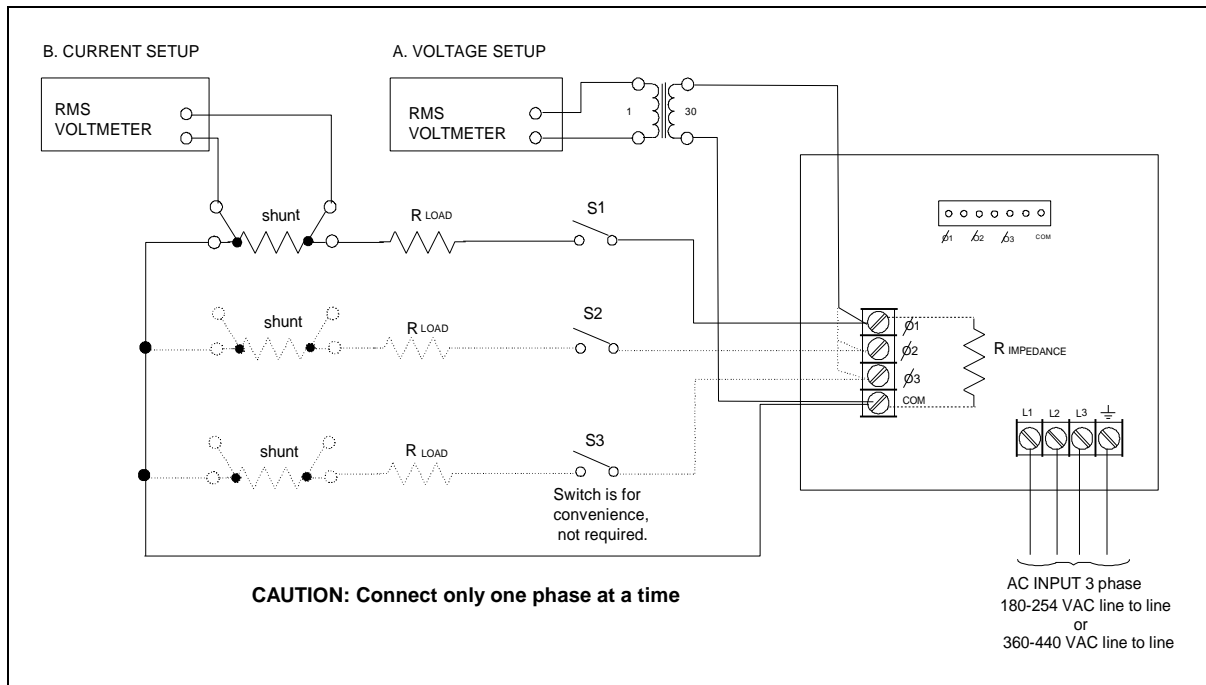

Figure B-1. Verification & Calibration Test Setup
Figure B-1 shows the setup for the tests. Be certain to use load leads of sufficient wire gauge to carry the **full** output current (see chapter 2).
Figure B-1 shows the setup. Measure the ac output voltage directly at the output terminals. **If you are verifying a three-phase source**, start by verifying output phase 1.
1. Make sure the ac source is turned off. Connect the DVM and ratio transformer as shown in the test setup in Figure B-1.
1. Turn off the ac source. Connect the load resistor, current shunt, and the DVM across the current shunt as shown in Figure B-1. Use the following load resistor values: HP 6814B = 7.5Ω; HP 6834B = 15Ω; HP 6843A = 5Ω
Table B-1 lists the equipment required for calibration. Figure B-1 shows the test setup.
4. Connect the DVM (ac volts mode) directly to the ac source via the ratio transformer shown in Figure B-1. Do not connect the load resistor or current shunt.